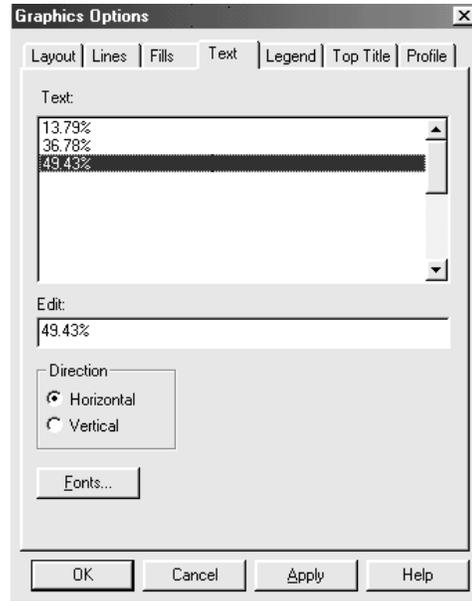

Figure 5-15. Text Tab Page
3. Click the left button, then the right on Graphics Options on the pop-up menu to display the Graphics Options dialog box opened to the Text tab page (see Figure 5-15).